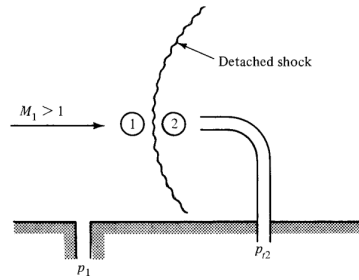

Figure 7.13
- 7.11** A pitot tube is installed in a wind tunnel in the manner shown in Figure 7.13. The tunnel air temperature is 500°R and the static tap (p_1) indicates a pressure of 14.5 psia .